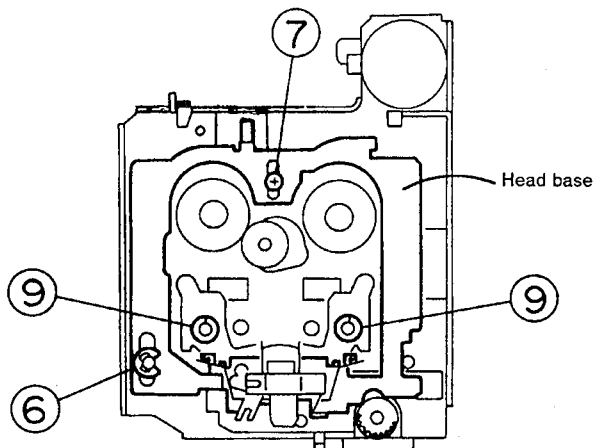
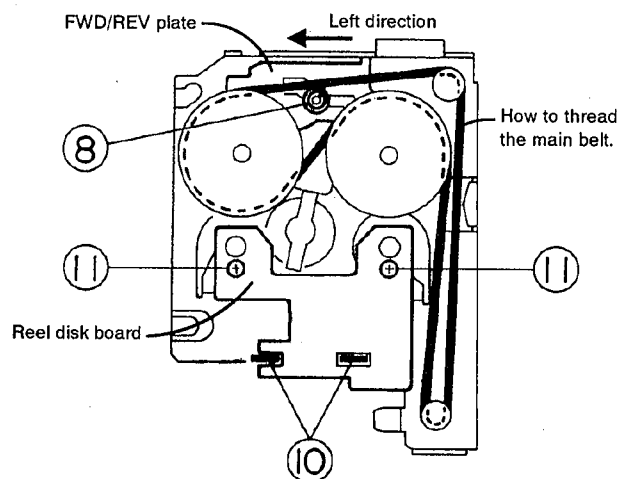
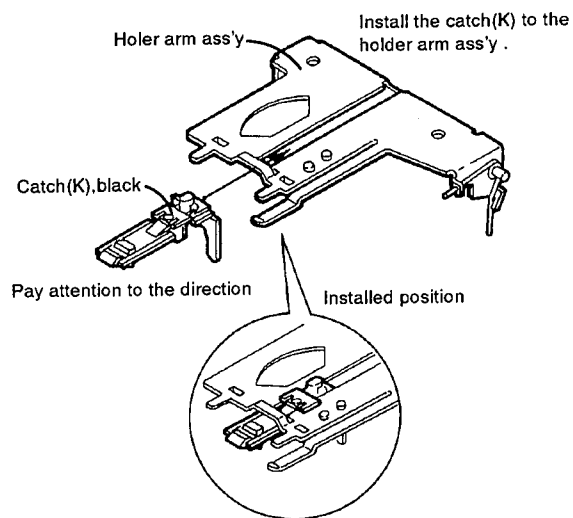

Fig. 4-13
Fig. 4-14
Fig. 4-15
■ **Head base** (See Figs. 4-13 and 4-14)
- 3) Remove the E washer ⑥ from the left shaft of the pinch roller.
- 4) Remove screw ⑦ for the head base.
- 5) Turn the head base upside down, then remove the C washer ⑧ securing the collar which secures the FWD/REV plate (the collar can also be removed.) (At this time, if the main belt is removed, operation will be made easier.)
■ **Flywheel ass'y** (See Figs. 4-13 and 4-14)
- 3) Remove two C washers ⑨ attached to the capstan shaft (remove both the right and left washers).
■ **Reel disk board ass'y** (See Fig. 4-14)
- 1) Straighten the bent tabs ⑩ holding the reel disk board.
- 2) Remove two screws ⑪ fixing the reel disk board.
■ **How to assemble the cassette holder and sub chassis** (See Figs. 4-15 through 4-18)
Step 1. How to install the catch (K)